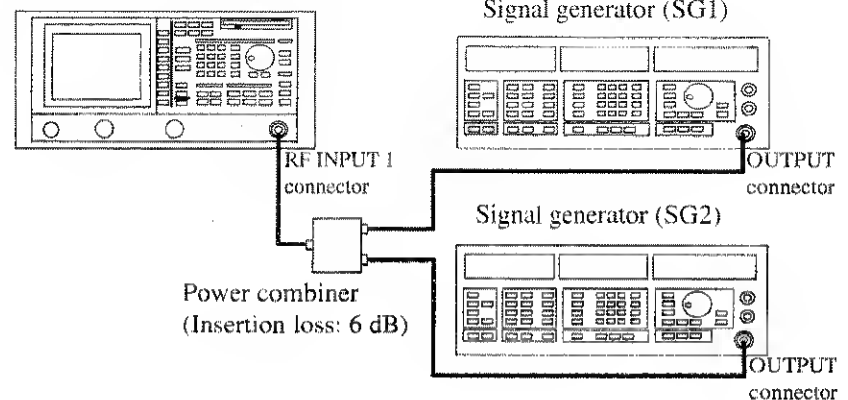

Figure 2-23 Setup for Measuring Two Signals Separately
1. Connect the signal generators as shown in Figure 2-23.